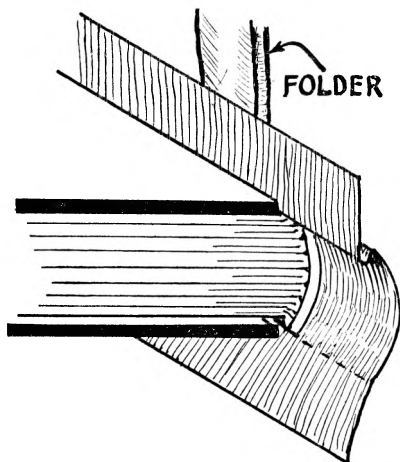

Fig. 85
29. Lay the book on its side with the back projecting over the edge of the bench and rub the cloth well down on to the spine. Work the cloth into the groove with the folder, fig. 85, and then lay the remainder of the cloth down on to the side of the book